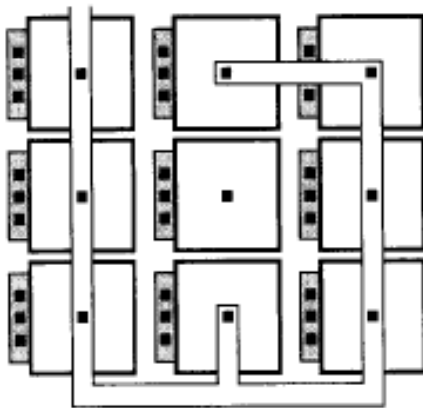

Figure 18.36 Layout of capacitors along with interconnections.
- The wiring seen in Fig. 18.36 inevitably leads to some error in the C_1/C_2 ratio.